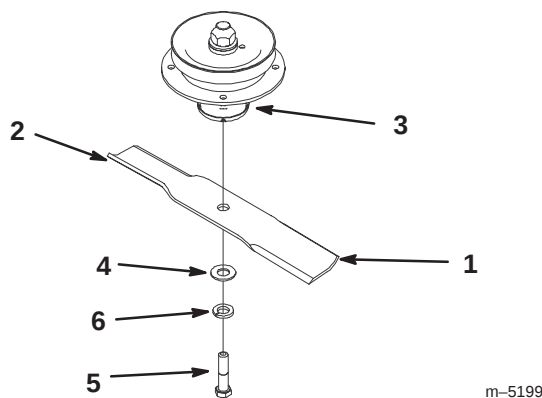
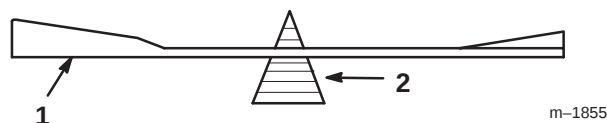

Figure 45
Figure 47
1. Hold the blade end using a rag or thickly-padded glove. Remove the blade bolt, washer, lock washer and blade from the spindle shaft (Fig. 45).
2. Check the balance of the blade by putting it on a blade balancer (Fig. 47). If the blade stays in a horizontal position, the blade is balanced and can be used. If the blade is not balanced, file some metal off the end of the sail area only (Fig. 45). Repeat this procedure until the blade is balanced.
1. Install the blade onto the spindle shaft (Fig. 45).
Important The sail part of the blade must be pointing upward, toward the inside of the mower to ensure proper cutting (Fig. 45).
2. Install the lock washer and blade bolt (Fig. 45). Torque the blade bolt to 85–110 ft-lb (115–140 N•m).